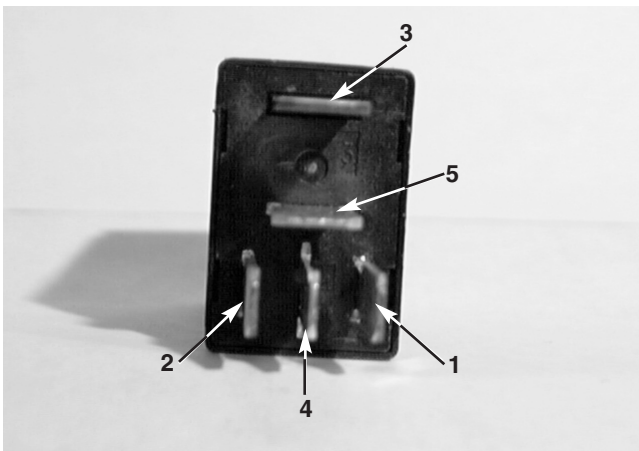

FIGURE 27.
- 3). Place the relay on a flat surface and identify the corresponding male terminals. See figure 27.